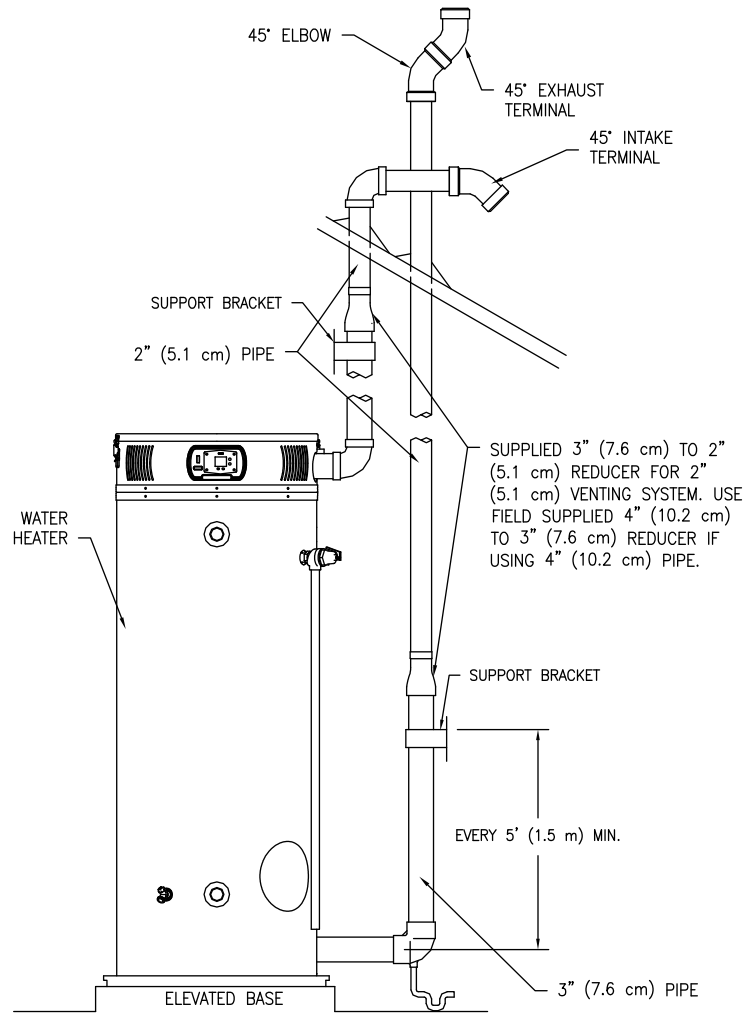

Figure 14. Typical Vertical Direct Vent System Installation
2. Install the exhaust vent and air intake plastic pipes as shown in Figure 14. Make sure that the installation meets the local codes and/or The National Fuel Gas Code ANSI Z223.1 (Latest Edition) or CGA/CAN B149 Installation Code (Latest Edition).